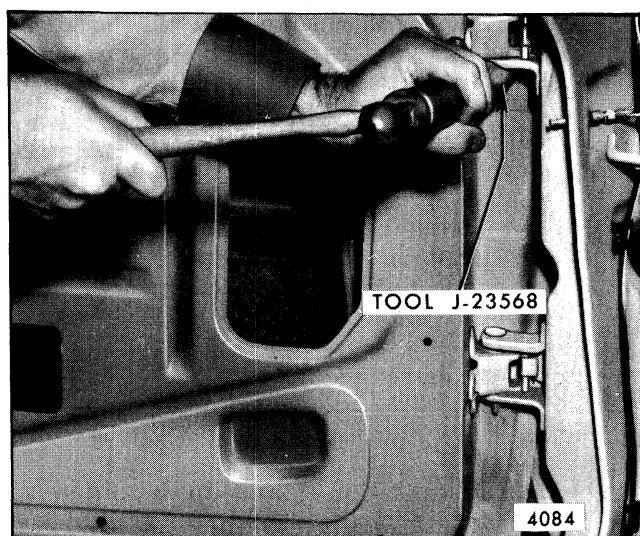
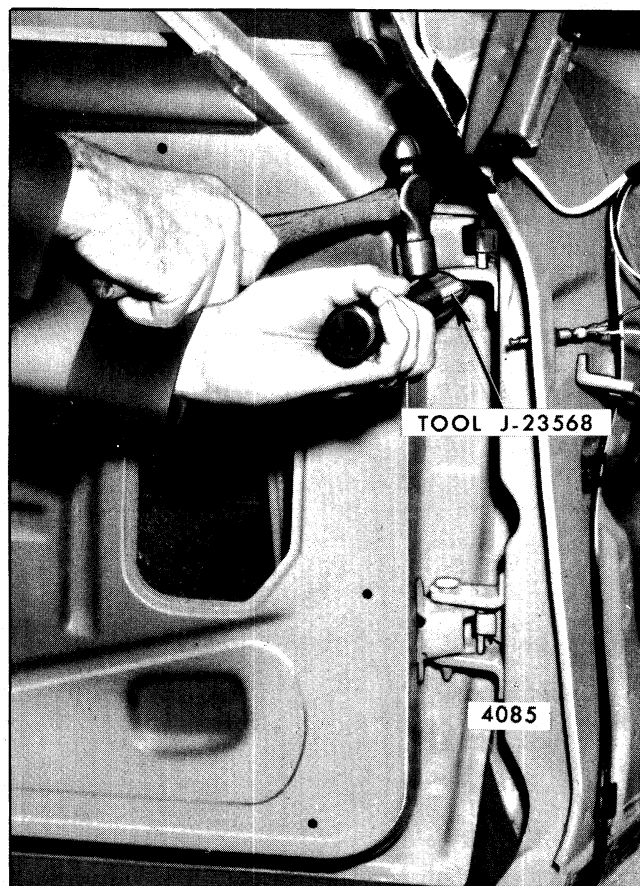

Fig. 5-82-Door Hinge Pin Removal - "H" Styles
Fig. 5-83-Door Hinge Pin Removal - "H" Styles
1. Remove "E" ring (snap retainer) from end of both upper and lower hinge pins (Fig. 5-83).
2. Using tool J-23568 or equivalent and the aid of a helper to support the door in an open position, drive wedge between the head of the hinge pin and the upper hinge as shown in Figure 5-82. Driving wedge at this location will partially remove the hinge pin from the hinge assembly. To completely remove the hinge pin, tap on the hinge pin removing tool as shown in Figure 5-83. Repeat operation outlined above on lower hinge.